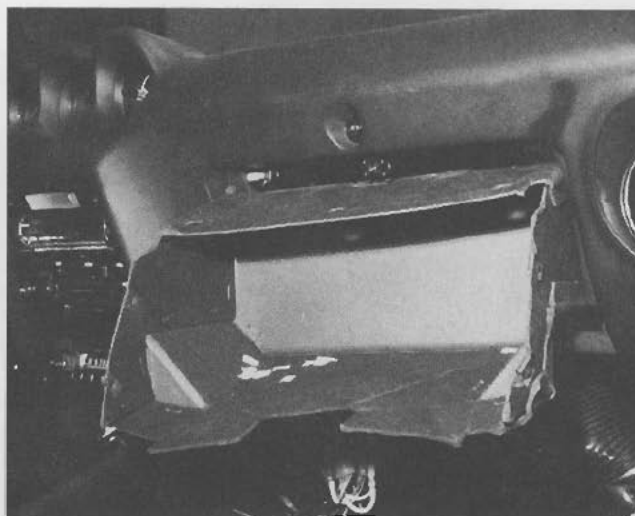

Figure IV-2. Removal of Glove Compartment Liner
- b. Remove the four (two each side) attaching screws from the compartment liner at the door opening. Pull the compartment liner through the door opening in the instrument panel. (See Figure IV-2.)